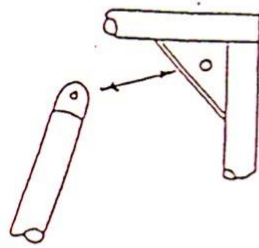

FIG 3
- G. Tongue and gusset connections as in fig 3 may only be used in the diagonal brace, and must be made from a minimum of 6mm plate. Bolts used to secure such joints must be minimum 12mm diameter high tensile.